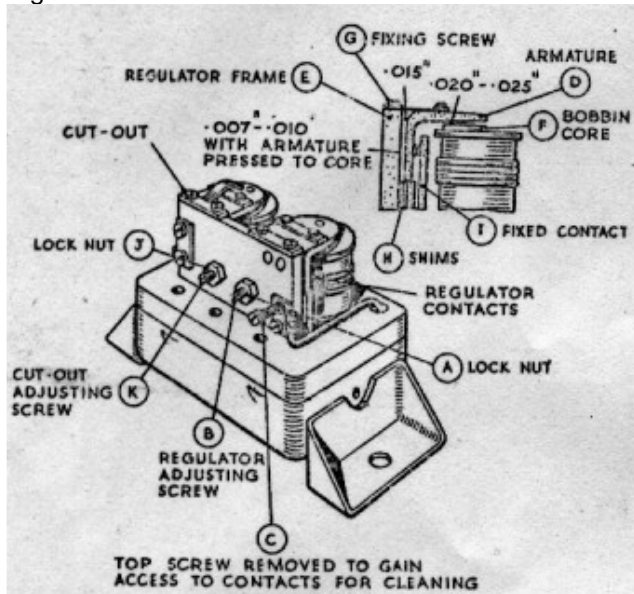

Fig. 69. Regulator adjustment and setting.
If the voltage at which the reading becomes steady is outside these limits, the regulator must be adjusted. Shut off the engine, release the locknut (A, Fig. 69) on the regulator adjusting screw (B) and turn the screw in a clockwise direction to raise the setting, or in an anti-clockwise direction to lower the setting. Turn the screw a fraction of a turn at a time and then tighten the locknut. When adjusting, do not run the engine up to more than half-throttle, as while the dynamo is an open circuit, it will build up to a high voltage if run at a high speed and so a false voltmeter reading would be obtained.
**B (12) Regulator – Cleaning the Contacts.**
Insert a .015" feeler gauge between the back of the armature (D, Fig. 69) and the regulator frame (E). Insert a .020" - .025" feeler gauge between the top of the bobbin core (F) and the underside of the
(c) To check the voltage at which the cut-out operates, with the engine still running, the voltmeter should be connected between the "D" terminal and earth. Slacken the locknut (J, Fig. 69) on the cut-out adjustment screw (K) and turn the screw in an anti-clockwise direction until the cut-out contacts are seen to close. Check the voltage at which the cut-out operates and if necessary adjust by turning the screw in a clockwise direction to raise the setting or anti-clockwise direction to lower it. Set the cut-out so that the contacts close at 6.2-6.6 volts. Tighten the locknut after making the adjustment.